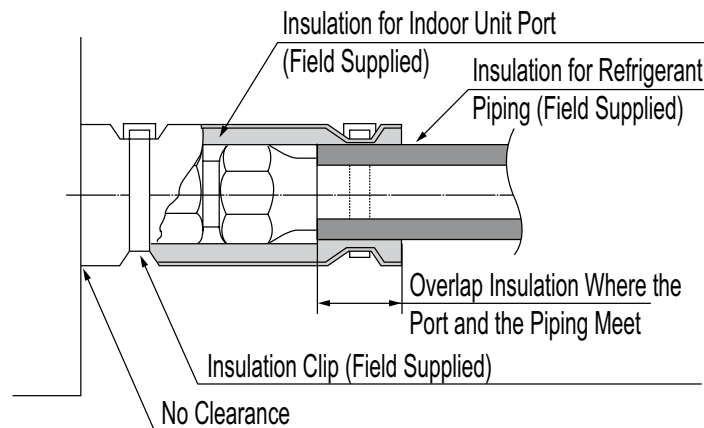

Figure 19: Typical Pipe Insulation
Figure 19 shows typical pipe insulation. Insulate all field provided refrigerant pipes and cold surfaces according to these guidelines:
- All insulation joints should be glued with no air gaps between insulation segments and between insulation segments and the unit case. Insulation material shall fit snugly against the refrigeration pipe with no air space between the pipe surface and the surrounding insulation. See Figure 19.
11. Insert the conductors under the terminal screws as shown in Figure 19. Be sure to connect the 3A terminal on the IDU to the IDU A terminal on the ODU, and the 4B terminal on the IDU to the IDU B terminal on the ODU. Do not cross connect these conductors.